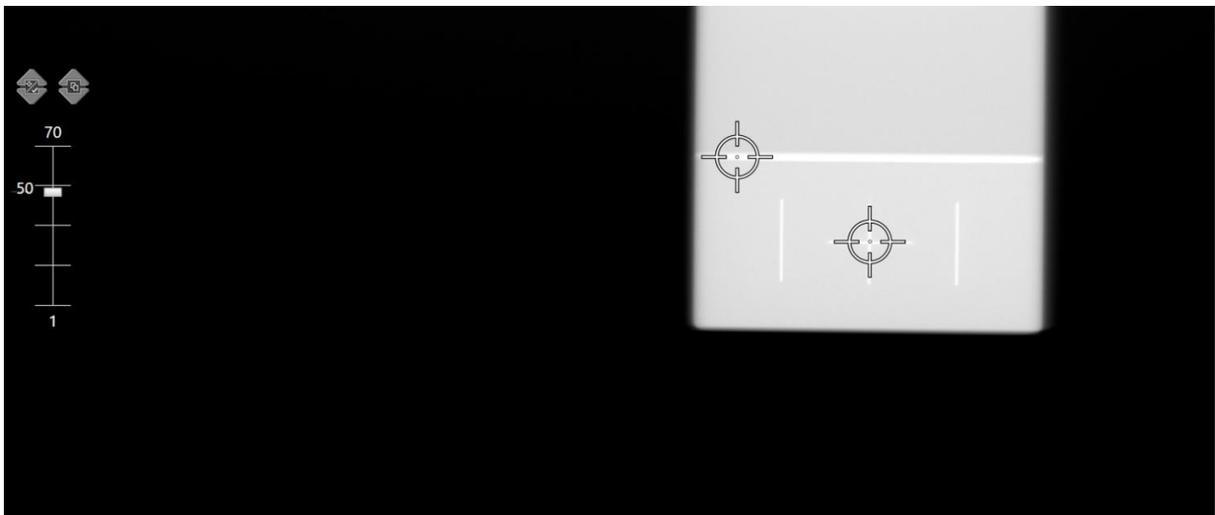

Figure 1 - Manually Creating a Second Target to Verify Operation
2. **Do not press the End QC button after verifying the targeting accuracy.** Use the mouse or trackball to click anywhere on the image of the QAS phantom to place a second target to verify that the mouse/trackball clicks are being accepted. (Reference Figure 1)